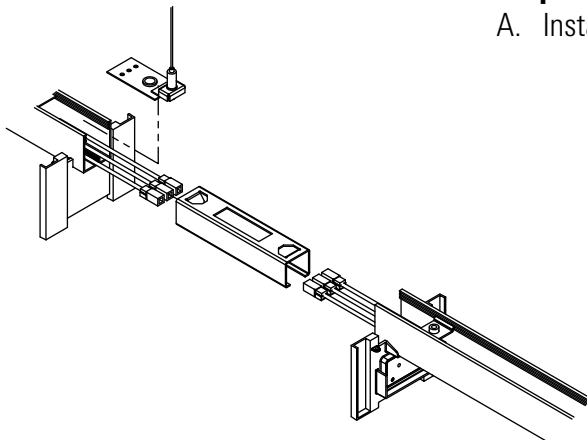

Figure 3
- A. Connect the wiring between fixtures before sliding the fixtures together. (Fig. 3)
- B. After each addition to your run tighten down the set screws to hold the fixtures in place. (Fig. 3)